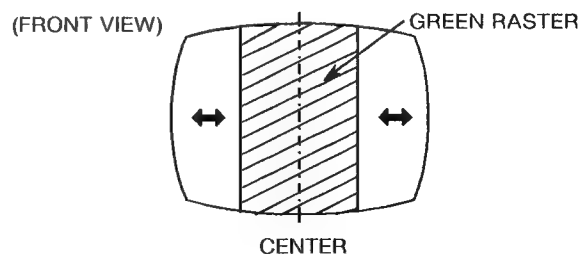

Fig. 4
7. Adjust the gap between two lugs so that the Green Raster will come into the center of the screen. (Fig. 4)